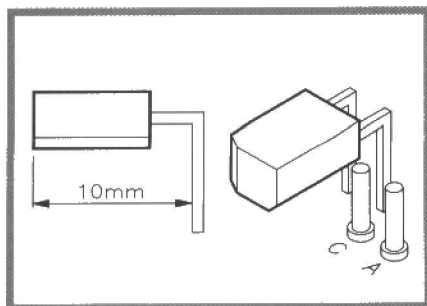

Figure 3. Fitting the infra-red receiver diode, D.
12. Infra-red receiver diode, D. Fit 2 PCB pins from the component side of the board; D can now be fitted, as shown in Figure 3.